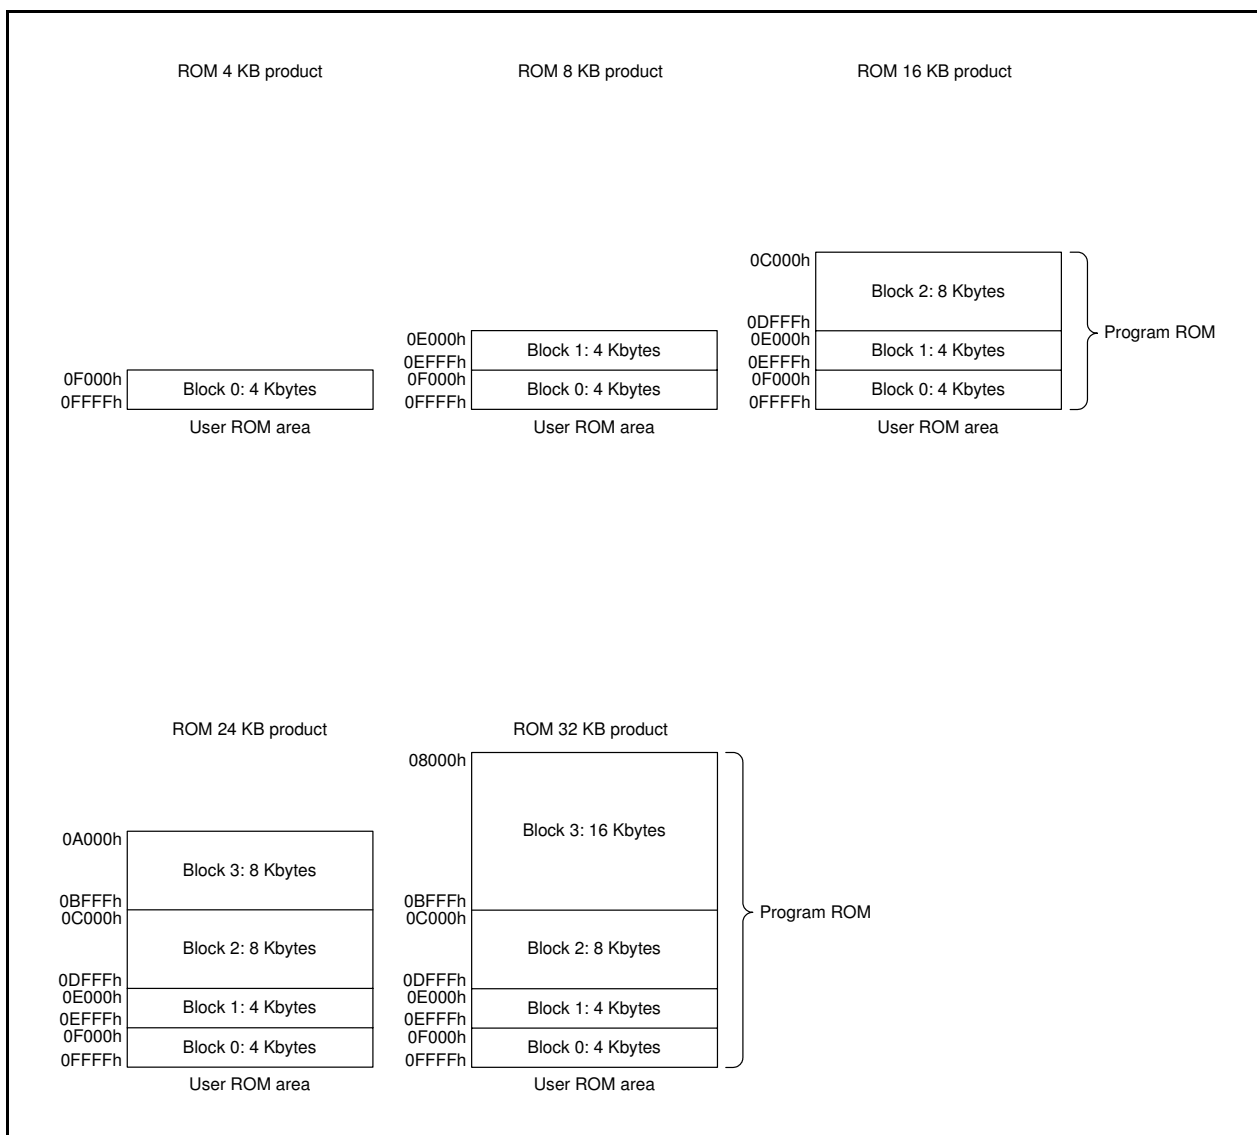

Figure 24.1 R8C/3GD Group Flash Memory Block Diagram
| Division of erase blocks                              |  | Refer to Figure 24.1 .                                |
- The number of blocks and block division vary with the MCU. Refer to **Figure 24.1 R8C/3GD Group Flash Memory Block Diagram** for details.
Figure 24.1 shows the R8C/3GD Group Flash Memory Block Diagram.